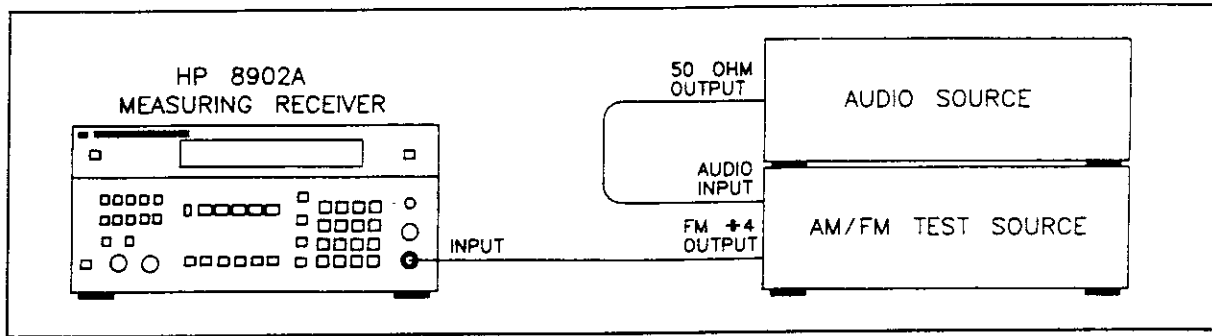

Figure 4-8. Measuring Receiver Incidental AM Verification Test Setup
- a. Connect the FM divide-by-4 output of the AM/FM test source to the input of the measuring receiver, and the 50 ohm output of the test oscillator to the audio input of the AM/FM test source, as shown in Figure 4-8.